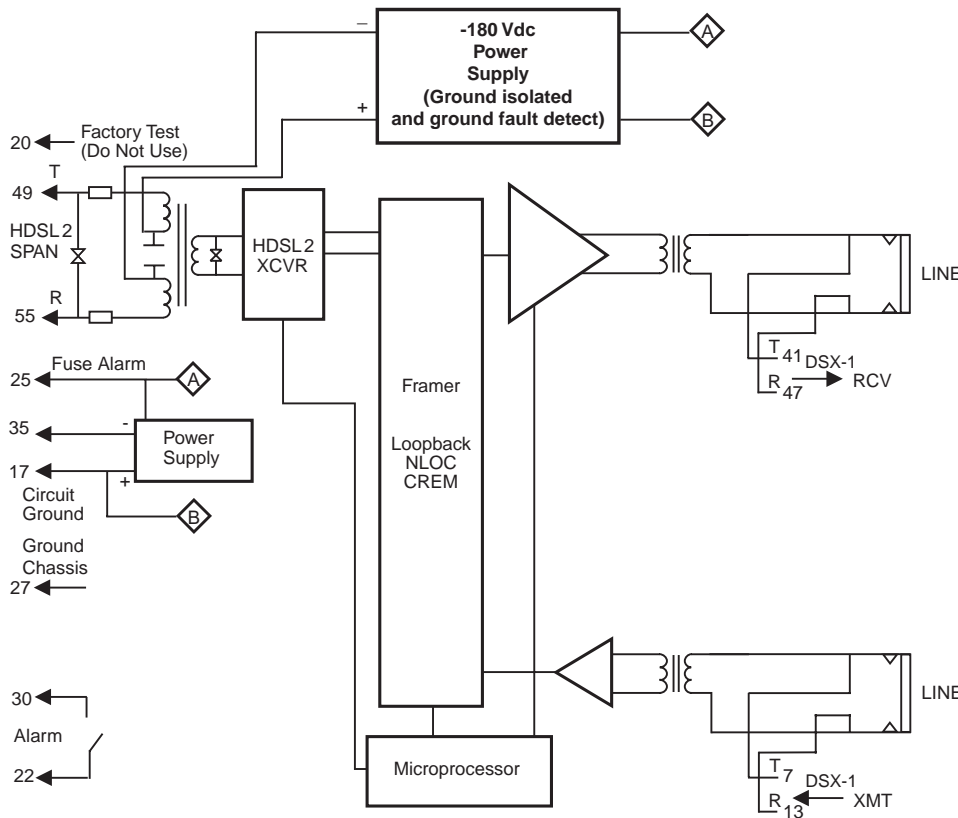

Figure 36. H2TU-C-202 List 3F Block Diagram
Figure 36 shows a block diagram of the H2TU-C-202 List 3F. The H2TU-C receives a 1.544 Mbps DSX-1 data stream from the DSX-1 digital cross-connect interface. The H2TU-C contains a DS1 frame synchronizer controlled by an 8-bit microprocessor that determines the type of framing on the DS1 stream. The H2TU-C synchronizes to the type of framing detected. The H2TU-C recognizes SuperFrame (SF), including D4 or Extended SuperFrame (ESF).